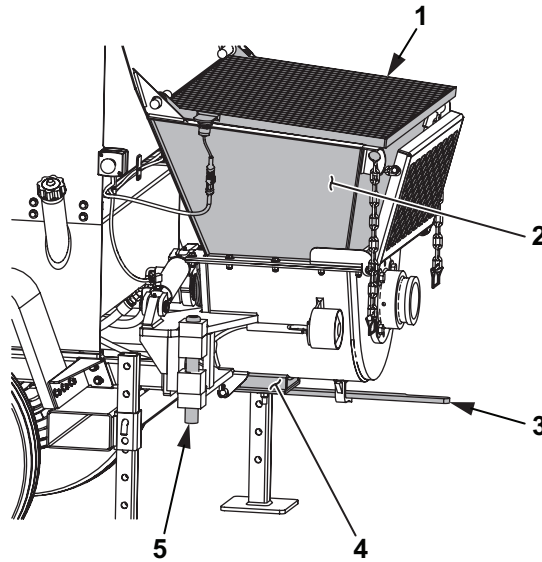
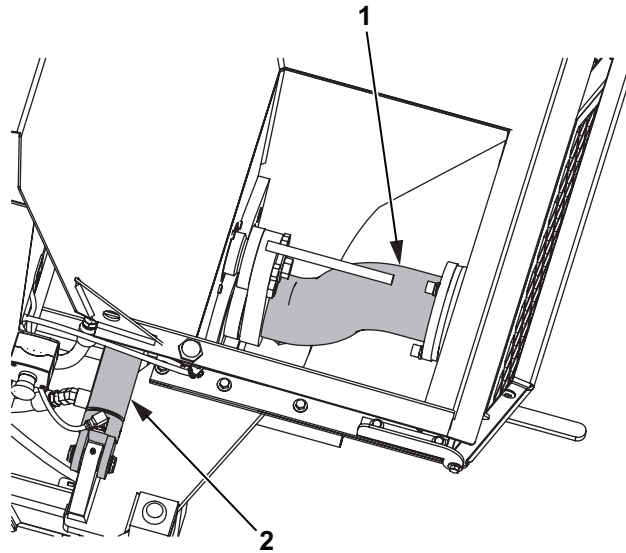

Figure 24 Hopper Assembly
Figure 25 S-Tube
The hopper (Figure 24, Item 2), upper grate (Figure 24, Item 1), S-Tube (Figure 25, Item 1), cleanout chute (Figure 24, Item 4), gate gasket, reversing cylinder (Figure 25, Item 2), and all pivot points are areas that require cleaning.
The hopper assembly (including grate, hopper, cleanout chute, and S-Tube) is mounted on a hinge and hinge pin (Figure 24, Item 5) system. Remove two bolts and the assembly can be rotated 90 degrees away from the main framework to allow easy cleaning of components.
7. Thoroughly flush out the hopper (Figure 24, Item 2), S-Tube (Figure 25, Item 1), and reversing cylinder (Figure 25, Item 2) with water. To aid in cleaning, the reversing cylinder can be moved using the manual controls.